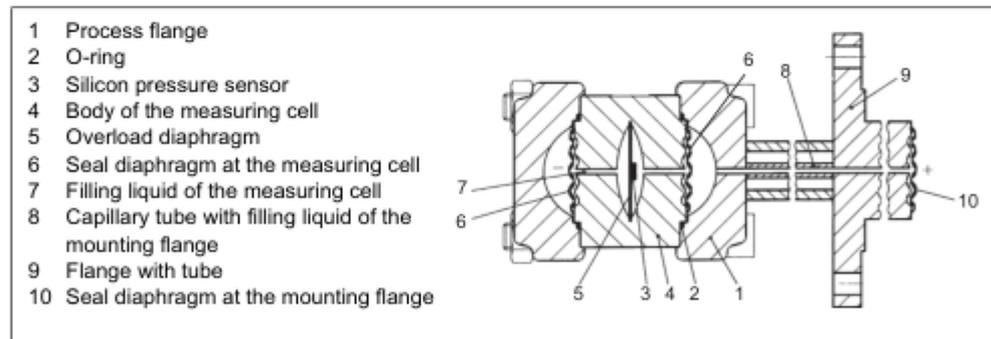

Figure 8 Measuring cell for filling level, functional diagram
The input pressure (hydrostatic pressure) acts through the seal diaphragm (10, Figure 8, pg. 19) at the mounting flange hydraulically on the measuring cell. The differential pressure applied at the measuring cell is transmitted via the seal diaphragms (6) and the filling liquid (7) to the silicon pressure sensor (3). On exceeding the measuring limits, the overload diaphragm (5) is deflected until one of the seal diaphragms (6) comes into contact with the body of the measuring cell (4) and protects the silicon pressure sensor (3) against overloading. The measuring diaphragm is flexed by the differential pressure. Four piezo-resistors in bridge circuit doped in the measuring diaphragm change their resistance as a result. The change in resistance causes a bridge output voltage proportional to the differential pressure.